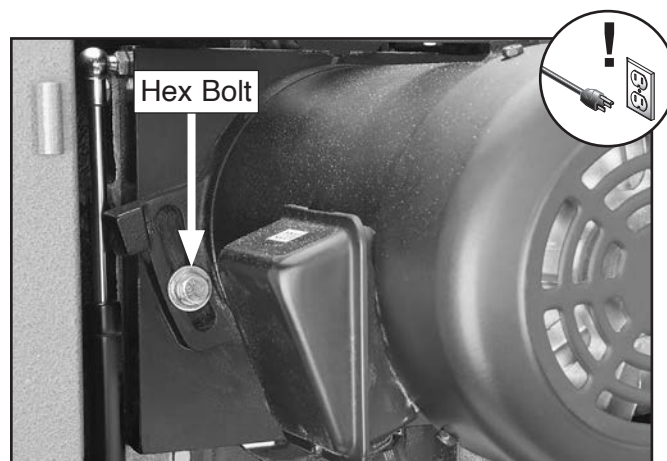

Figure 128. Belt tension adjustment bolt (one of two shown).
3. Loosen two hex bolts on motor (see **Figure 128**), and pivot motor up and down to make sure that it is movable.
9. Loosen motor adjustment bolt (see **Figure 128** on **Page 76**).